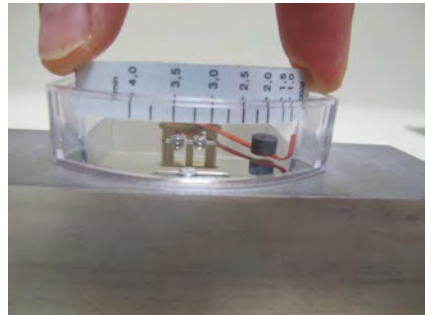

Fig. 70
17. ▶ Slide the scale holder (with the affixed scale) into the guide of the plastic housing (Fig. 70). Note direction of flow (lower scale value toward the input side of the device).